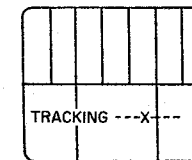

Fig. 4-15
- 3) Press the "<" or ">" cursor button on the remote control until the "X" mark can be seen in the center position of the tracking range on the TV screen as shown in Fig. 4-15.